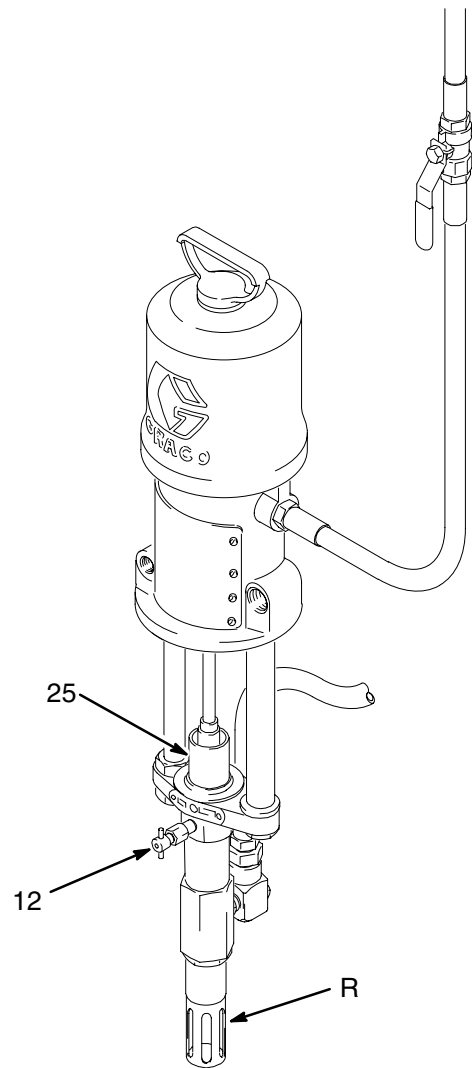

Fig. 3
Fill the wet-cup (25) half full with Graco Throat Seal Liquid (TSL). With the drain valve and bleeder valve closed, and the gun/valve safety disengaged, trigger the gun/valve and slowly open the air supply valve until the pump starts. If fluid does not flow from triggered gun/valve, open the bleeder valve (12) slightly. See Fig. 3. When fluid appears, close bleeder valve.
Keep the wet-cup (25) filled with Graco Throat Seal Liquid (TSL). See Fig. 3. Check tightness of packing nut (36 or 60) weekly. The packing nut should be tight enough to prevent leakage, but no tighter. Follow the **Pressure Relief Procedure** on page 8 before adjusting the packing nut.